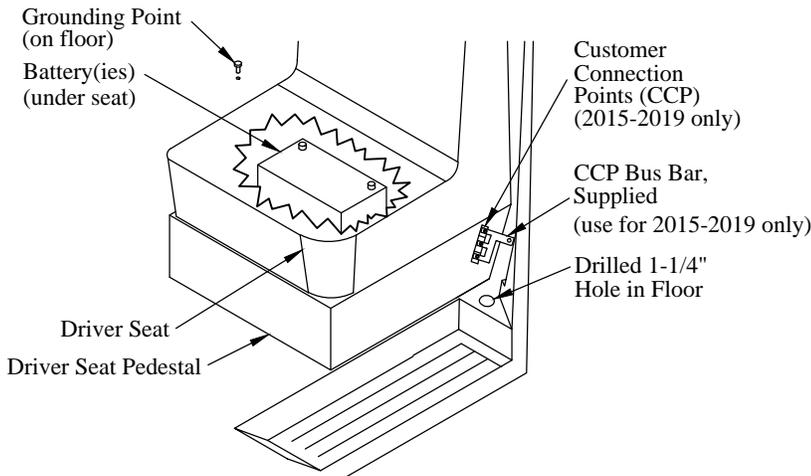

Figure 17: Customer Connection Point location.
4. **Drill** and **Deburr** a 1-1/4" hole in the floor next to the driver seat in the location shown (Figure 17).
10. Cut the negative(-) lead to the length required to reach a vehicle ground point on the floor between the front seats (Figure 17).
19. **Remove** the plastic cover from the CCP on the driver seat pedestal (Figure 17).
20. **Install** the supplied bus bar on the CCP studs using three (3) supplied M5 nuts and star washers.